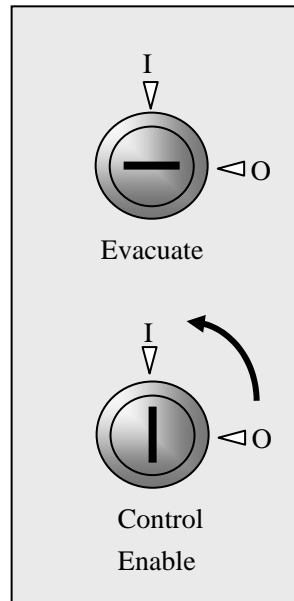

Fig. 3.6.1b
- As in Fig.3.6.1b, when "Control Enable" lock points to "I", the panel is at level 2, the panel can self-test and reset, and sounders can be silenced.